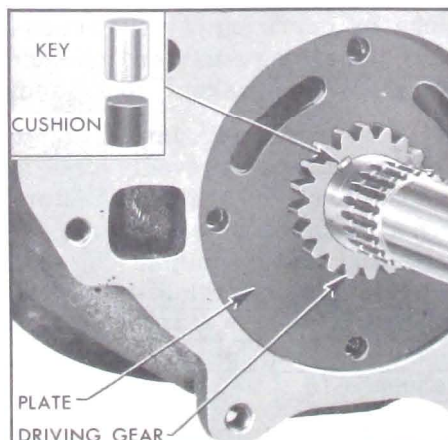

Figure 5-112—Oil Pump Driving Gear and Key Installed
2. Install oil pump drive key cushion (rubber) and drive key in output shaft, then install driving gear to engage the key. Install old gear in same position as before removal - install a new gear either way. See Figure 5-112.